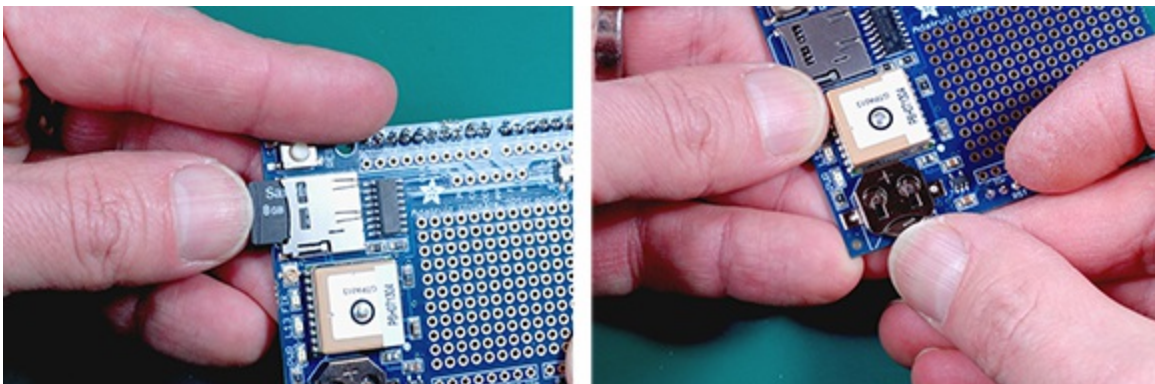

Figure 13-16: Installing your mini SD card and battery (after testing).
The power supply is simply your 9V battery connected to the switch. The positive lead is connected to one side of the rocker switch. The other side is connected to the Vin pin on your GPS shield, which is connected to your Arduino's power input pin (through a pin header on the shield). The negative lead goes straight to your ground pin. Do the following steps, as shown in Figures Figure 13-15 and Figure 13-16:
4. Insert your mini SD card into the shield, as in Figure 13-16.